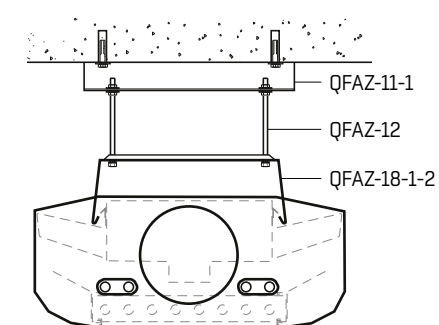

FIGURE 8
- 2) Next, snap the NOVA II IQFI into the fastening brackets. (See **FIGURE 8**)